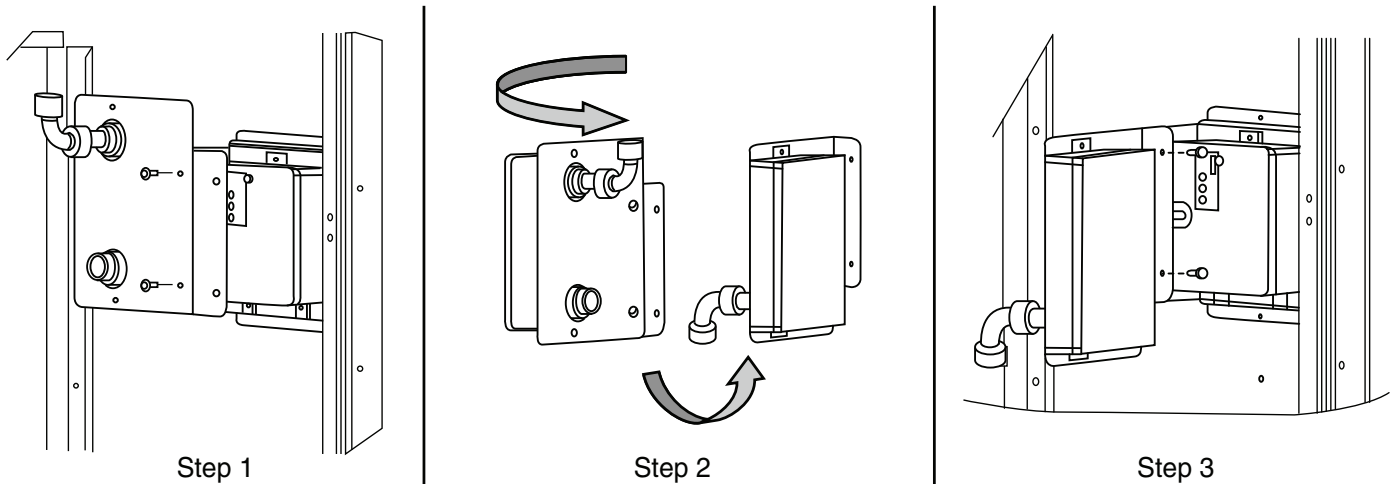

Fig. 58 — Completing Installation of Return Air Smoke Sensor
1. Unscrew the two screws holding the return air smoke detector assembly. See Fig. 58, Step 1. Save the screws.
2. Turn the assembly 90 degrees and then rotate end to end. Make sure that the elbow fitting is pointing down. See Fig. 58, Step 2.
3. Screw the sensor and detector plate into its operating position using screws from Step 1. See Fig. 58, Step 3.